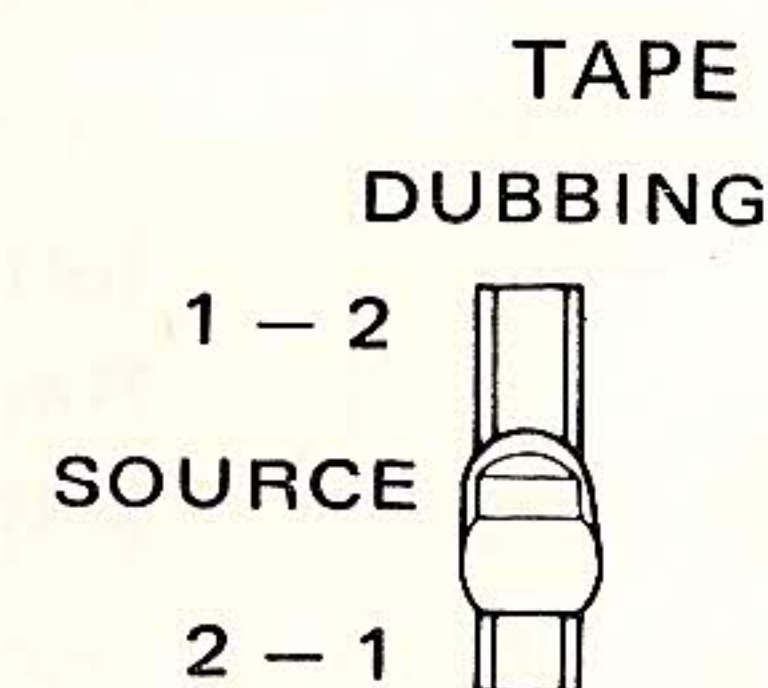

Fig. 18 TAPE DUBBING Switch
- 2) Set the TAPE DUBBING switch to either 1 → 2 or 2 → 1. Use the former position to record from the tape deck connected to the TAPE 1 terminals into the tape deck connected to the TAPE 2 terminals. In this case, the first tape deck should be engaged in the playback mode, and the second tape deck in the recording mode. The recorded tape is reproduced on the first tape deck, and the recording is re-recorded into the blank tape loaded on the second tape deck. Use the latter position to record from the tape deck connected to the TAPE 2 terminals to the one connected to the TAPE 1 terminals. (See Fig. 18)